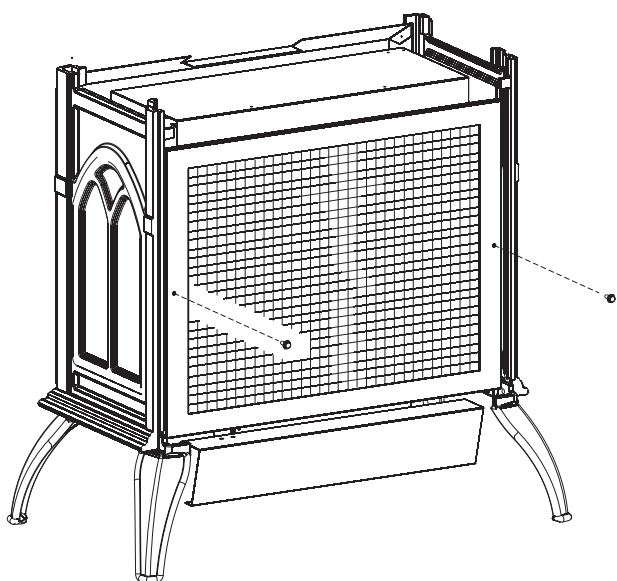

Figure 5
3. Remove screen door by removing two (2) screws. See Figure 5.